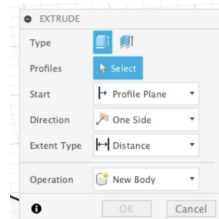

Figure 1.3
- A new window will appear where you can choose the profile, direction, distance, and whether to save the result as a New Body or New Component (see Figure 1.3).